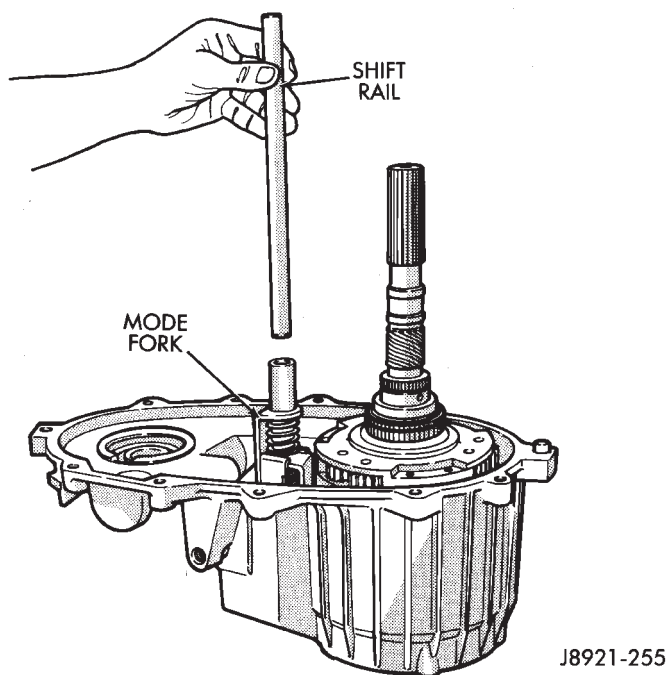

Fig. 16 Removing Shift Rail
(28) Remove shift rail by pulling it straight up and out of fork (Fig. 16).